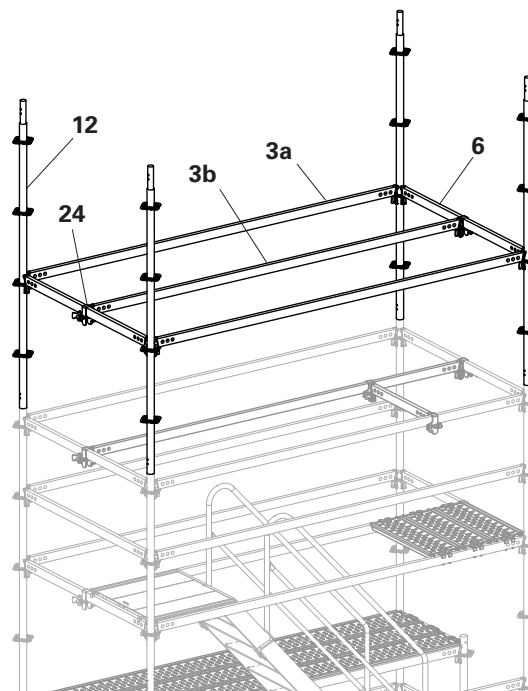

Fig. B3.09
3. Attach the internal Horizontal Ledger UH-2 300 (**3b**), connected to the Horizontal Ledgers UH-2 150 (**6**) with Ledger Brackets UHA Half (**24**). (Fig. B3.09)